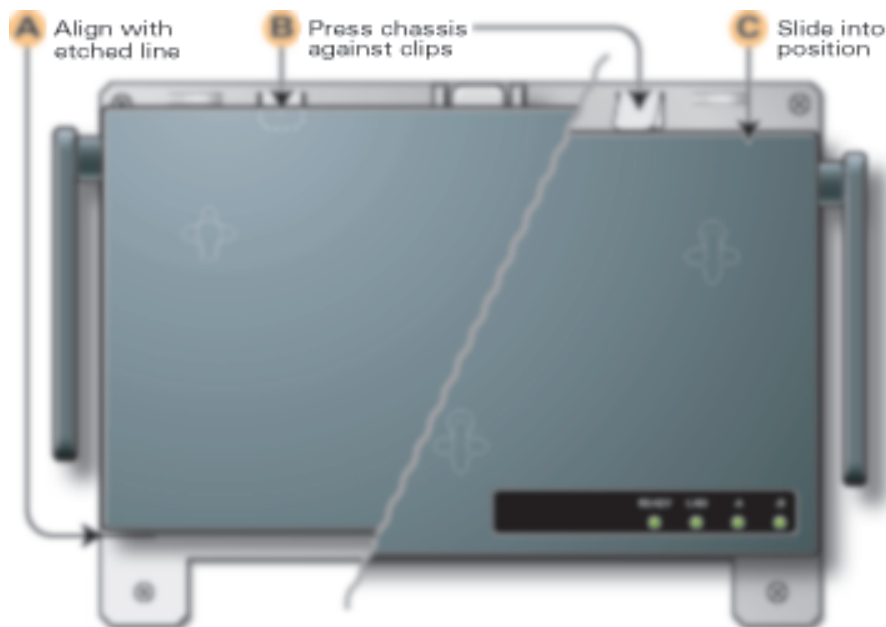

FIGURE 2-4 Placing the Aruba 50 into the Cradle
- 2 Place the Aruba 50 into the mounting cradle as shown in Figure 2-4.